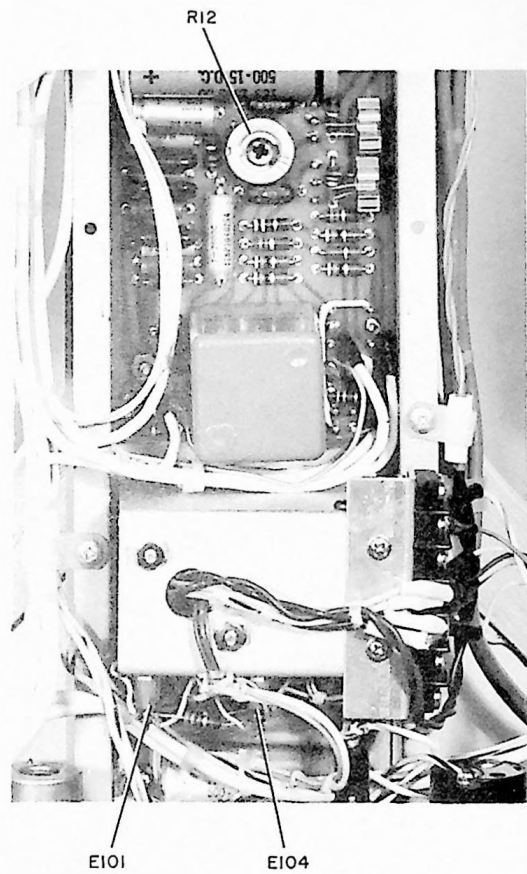

Figure 5-1. Test and Adjustment Points
The voltage limits given in the following tests are typical values obtained when the 808A-1 Console is operating with an output of +8 dbm and the PROGRAM LINE is terminated in a 600-ohm nonreactive load. Measure the d-c voltage between terminal E104 (see figure 5-1) and E3. It should be 18.5 volts \pm 10 percent. Measure the d-c voltage between terminal E101 (see figure 5-1) and E3. It should be 14.5 volts \pm 10 percent.
- f. If the harmonic distortion (not hum) is greater than 2 percent, adjust potentiometer R12 (see figure 5-1) to obtain minimum distortion as indicated on the noise and distortion meter.